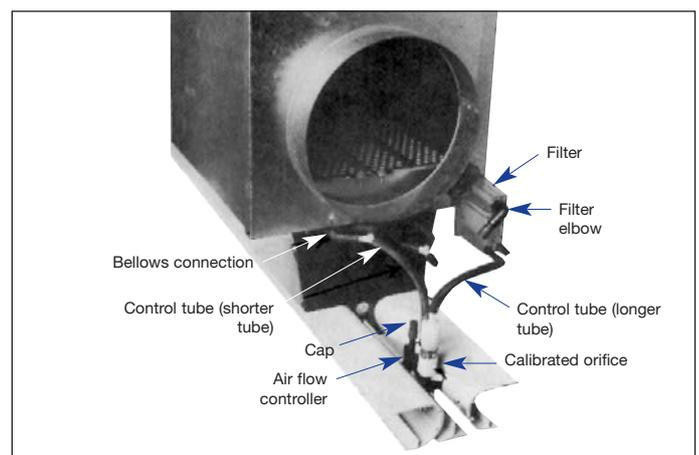
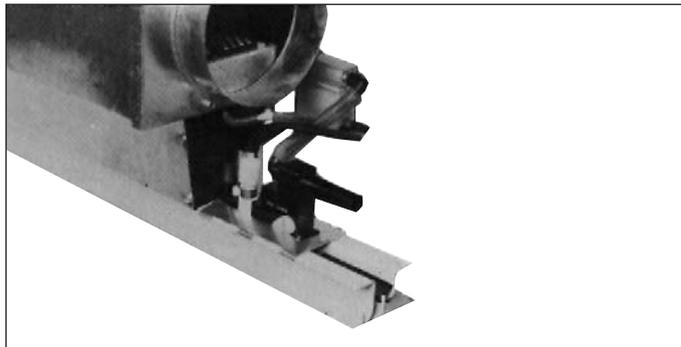
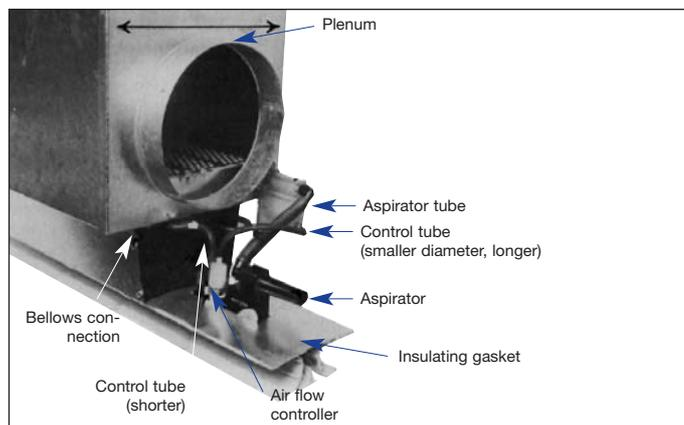

Fig 3 - Constant volume controller
Fig 5 - 37AG unit detail
Fig 6 - Variable air volume controller
#### Constant volume controller (Fig 3)
6 - Install the insulating gasket (insulation downwards) below the controller/thermostat assembly such that the open side (AG,AS) or the smaller tongue (AH) is in contact with the lower plenum insulation. Flatten the tongues (3 on each side) against the upper sides of the diffuser wings so that the gasket stays securely in place (Figs 5 and 6).
7 - Select the longer, aspirator tube (large diameter) and connect the filter elbow to the thermostat (Fig 6).
8 - Refer to Fig 3 or Fig 6 as appropriate. Remove the plug from the bellows connection, or from the Y bifurcator, according to type, and connect it to one outlet on the controller connection manifold using the shortest, small diameter tube.
9 - Connect the open outlet at the filter to the inlet on the controller using a longer, small diameter tube. Refer to Fig 3 or Fig 5.
10 - For 37AG units (Fig 5) insert the black plastic blanking piece on the central diffuser so that it abuts the thermostat.